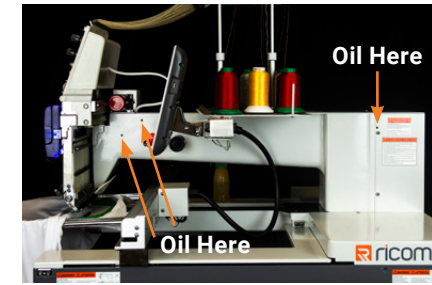

Figure 113
- Apply two to three drops of sewing machine oil to the three red openings on the right side of the machine's upper shaft. **See Figure 113.**